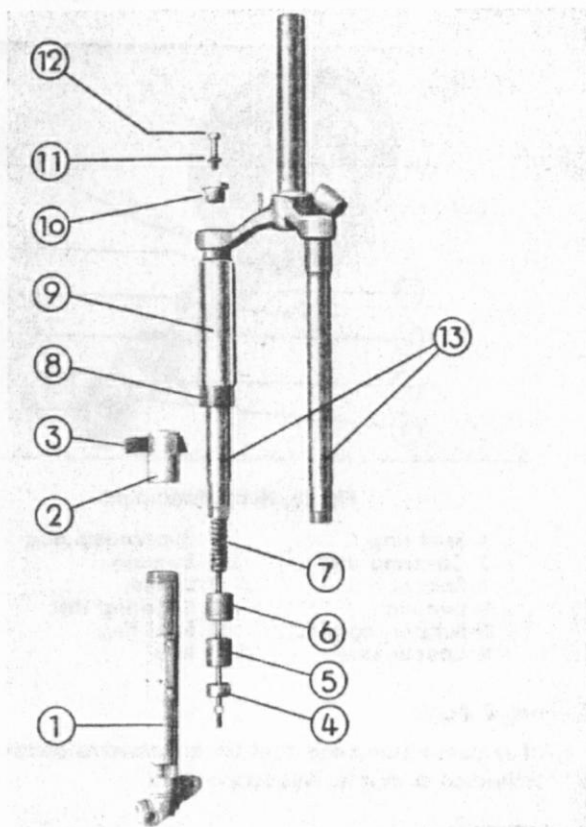

Fig. 25: Telescope fork, dismantled
Unscrew mudguard fixing nuts and screws, press mudguard fixing clip away from one of the sliding tubes (Fig. 25/1), turn sliding tube through 90 degrees, and remove mudguard.
- c) Dismantling the telescope fork (Fig. 25):
1. Unscrew the nut of the spring supporting bolt in the eye of the fork, and pull down sliding tube (Fig. 25/1) until the grooved shell (Fig. 25/2) becomes easily accessible. During this operation the oil will flow out.
2. Remove felt washer (Fig. 25/3) of grooved shell (Fig. 25/2) and unscrew grooved shell. Then pull out sliding tube downward.
3. Unscrew bottom joint of fork stanchion (Fig. 25/4) and remove bottom guide bushing (Fig. 25/5) as well as top guide bushing (Fig. 25/6) together with grooved shell.
4. Pull out exterior fork tube (Fig. 25/9) with rubber buffer (Fig. 25/8).